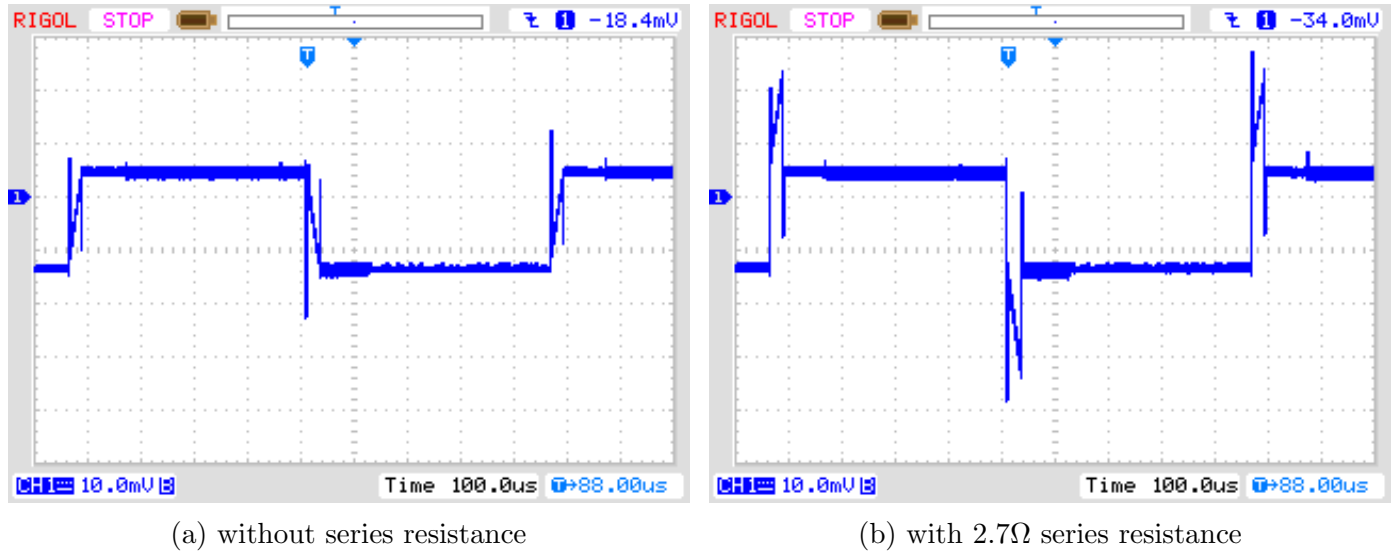

Figure 5.33: Voltage curve of a $10\mu F$ capacitor during new ESRg
Due to the shorter load puls not only the ESR of capacitors with lower capacity can be measured, but this way of measurement can also be used for the measurement of resistors with little resistance, if they don't have a detectable inductance. By doing that, a resolution of 0.01Ω for this resistors can be achieved. Also the zero resistance can be detected by the calibration part of the selftest for all three test pin combination. You should keep in mind, that stable plug sockets or clamping connectors are essential for stable results. The measurement periode is about $900\mu s$, which results to a frequency of about $1.1kHz$. Because the load pulse is very short, the measurement result is comparable to measurements with $10kHz$. A measurement example with a $10\mu F$ foil capacitor, once measured alone and once measures with a 2.7Ω series resistor is shown in figure 5.33. You can see the effect of the additional resistance by comparing both diagrams. You can see also, why the ADC measurement (SH) should point to the middle of the load pulse. With big capacity values the load current is nearly stable during the total pulse length, so you will get the middle voltage at the middle time of the load pulse. With lower capacity values you will get a significant difference, which can be compensated by the known capacity value.